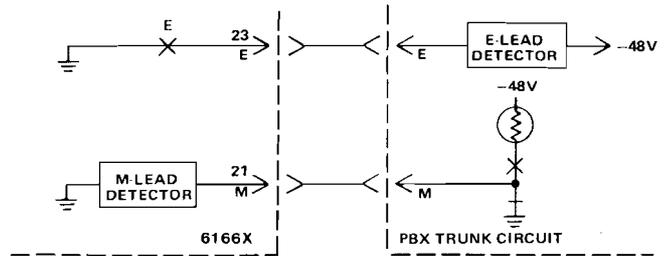

figure 3. DX1/Type I E&M signaling (TL31M or TC31M)
2.06 Figures 3 through 7 show the various applications listed in table 2. Either Type I, II, or III E&M signaling interface can be switch-selected. Type I is often used with electromechanical switching systems,